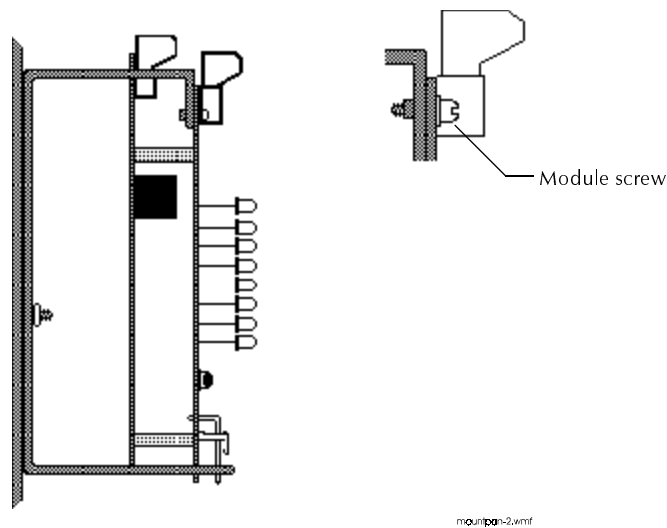

Figure 2-24 Securing a Module to a CHS-4 Chassis
2. Push the upper end of the module into the slots in the chassis. Secure the module to the chassis with the two module screws (Figure 2-24).